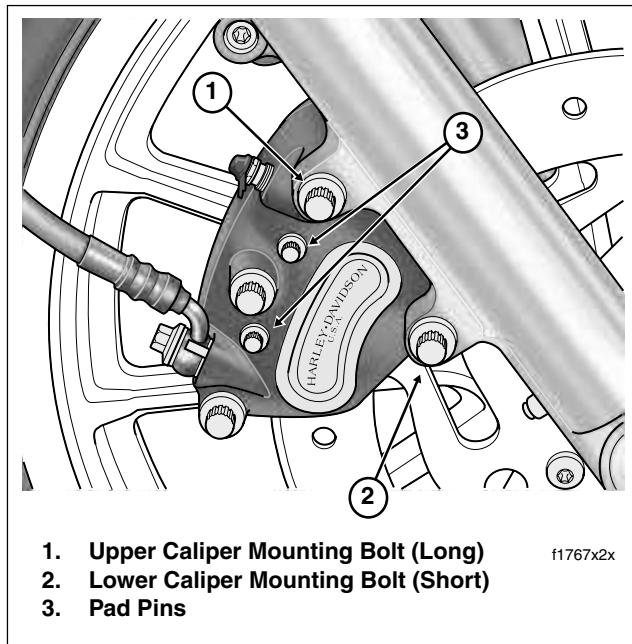

Figure 2-57. Loosen Pad Pins and Remove Caliper Mounting Bolts (Right Side View)
2. Loosen two pad pins, but do not remove. See Figure 2-57.
1. See Figure 2-57. Remove two pad pins. Remove brake pads from caliper housings.